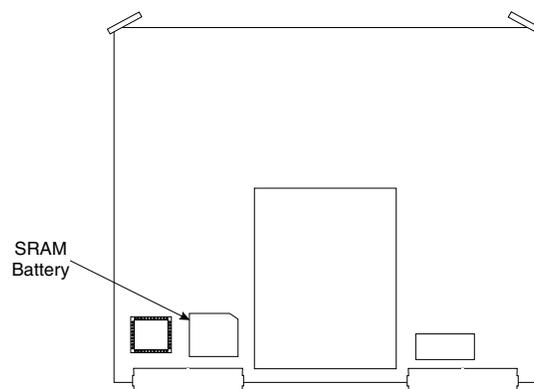

Figure 8-4. Location of SRAM Battery on the A9 PCB (54347 PCB only)
- Step 3.** Locate and carefully remove the SRAM battery from the A9 PCB. See Figure 8-4.